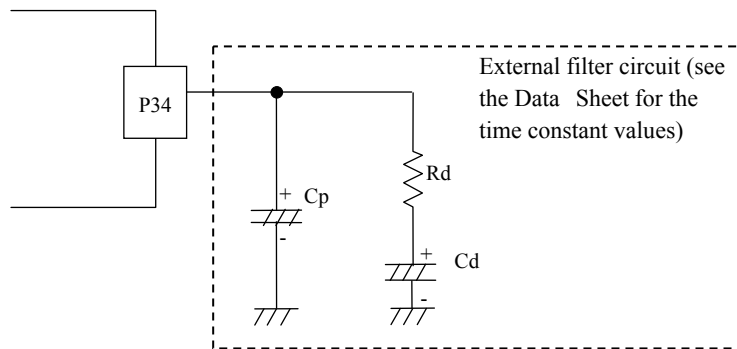

Figure 3.21.3 Internal PLL External Filter Circuit for the USB Interface
- <1> Set both VCOSTP and CMPSTP to 0 when generating the 48 MHz clock for USB using the internal PLL. In this case, set bit 4 (P34DDR) of P3DDR (FE4DH) and bit 4 (P34) of P3 (FE4CH) to 0. In addition, it is necessary to connect the external filter circuit shown in Figure 3.21.3 to the P34/UFILT pin.